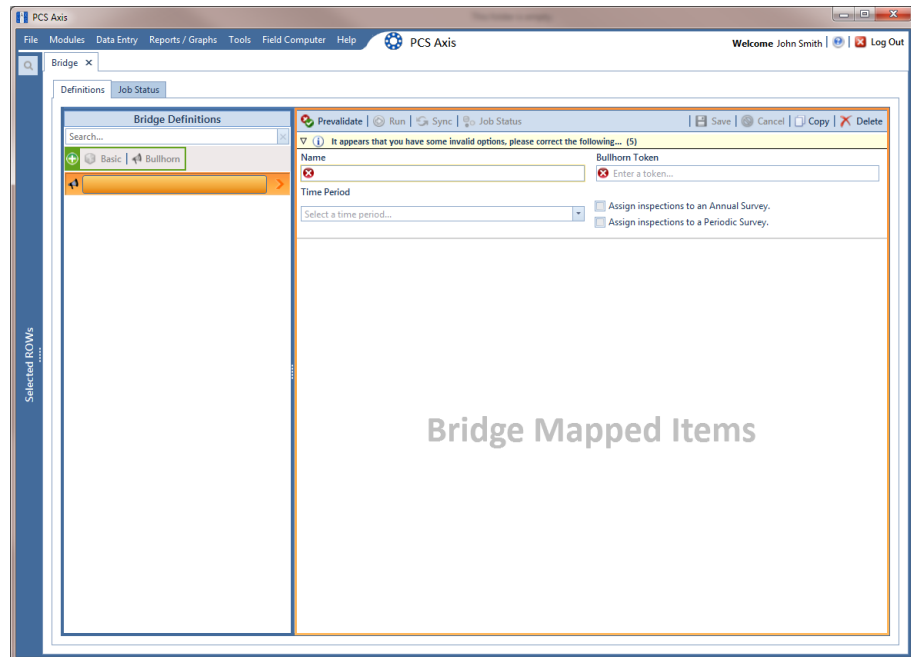

Figure 10-58. Bullhorn Definition Panel
- 3 Click **Bullhorn** to open the Bullhorn definition panel (Figure 10-58).